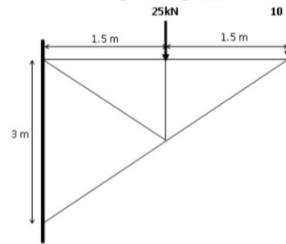

Fig.2
2. Analyse the plane truss shown in Fig.2, using tension coefficient method. [15]